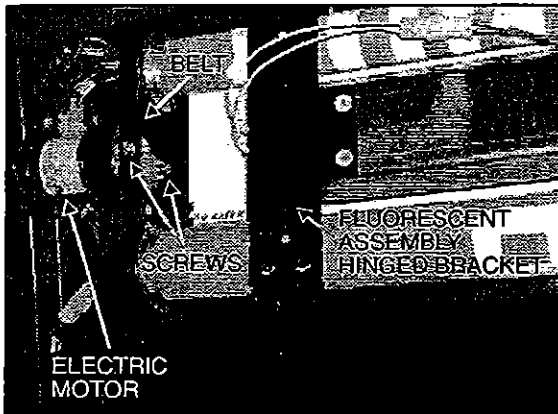

Figure 8
2. Remove both Phillips-head screws, one on each fluorescent assembly hinged bracket (see fig. 8), then lower assembly.
2. Remove both screws retaining motor to destination sign frame (see fig. 8).